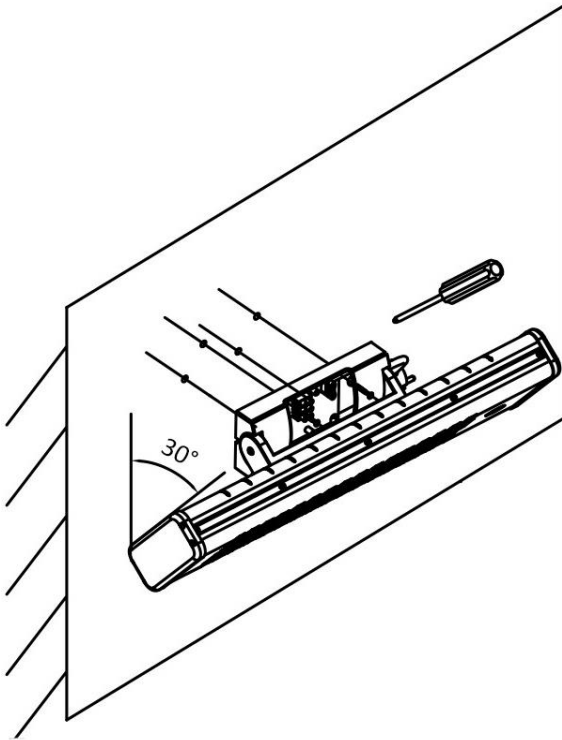

Fig.5
- Hold tight to the wall mount and orient the heater making sure the grille faces towards you. Swing the heater all the way down. Fix the wall mount and heater to the wall by applying two provided screws through two holes on top of the wall mount using a screwdriver. (See Fig. 5) It is recommended to use